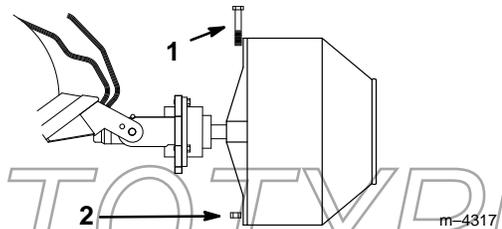

Figure 4
6. Secure the bowl to the drive head with the bolt and nut supplied with the auger drive head (Fig. 4).